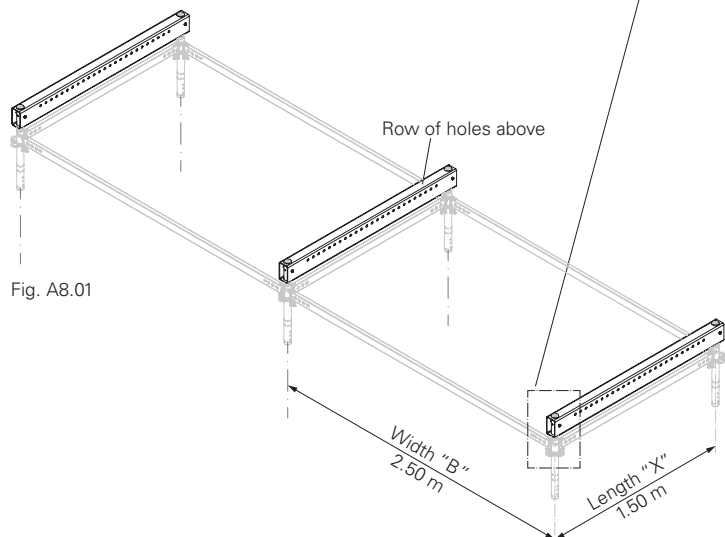

Fig. A8.01
- either marries up with the load-bearing substructure, variant 1. (Fig. A8.01)
1. Fit the ledger (28) onto the ends of the standard – 3x. Ensure that the row of holes is at the top. (Fig. A8.01 + A8.01a)